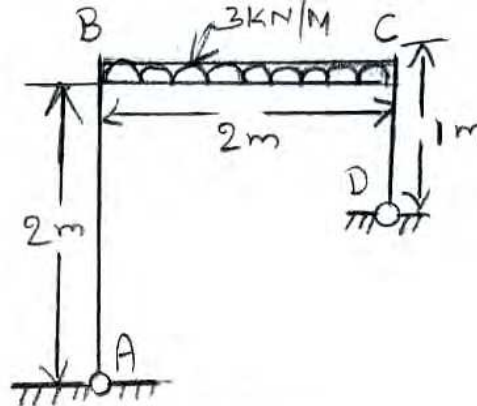

Figure 5
5. Using the method of minimum strain energy, analyze the portal frame shown in Figure 5. Plot the B.M diagram. EI is constant. [16]